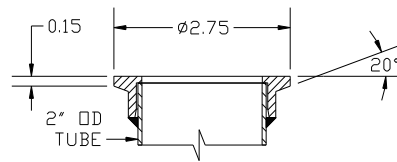

Figure 3
3. The **NewGen** features V-band style inlet and discharge connections. The V-band style connections allow it to be rotated 360 degrees to suit individual installation requirements. Mating flanges and clamps are supplied in the kit, and were designed to be welded to 2" OD tubing per Figure 3 (stainless or mild steel; 14-16 gauge). Be sure all mating surfaces are flat and free of irregularities. **NOTE:** A variety of mating flanges, fittings and other accessories are available from your nearest Turbonetics distributor (see common accessories list on last page).